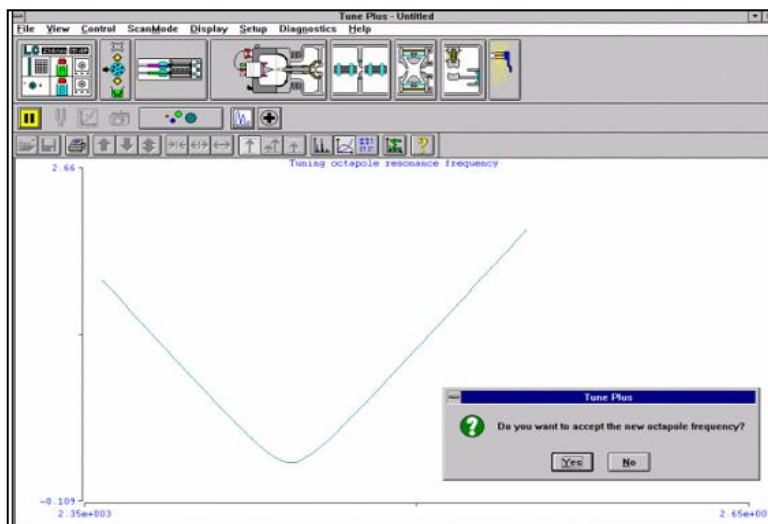

Figure 2. Graph view for the octapole RF voltage tuning.
- 6.2.6.3. Click on Start button. A frequency function appears in the graph view as shown in Figure 2. The minimum of the frequency function should lie between 2400 and 2550 kHz.